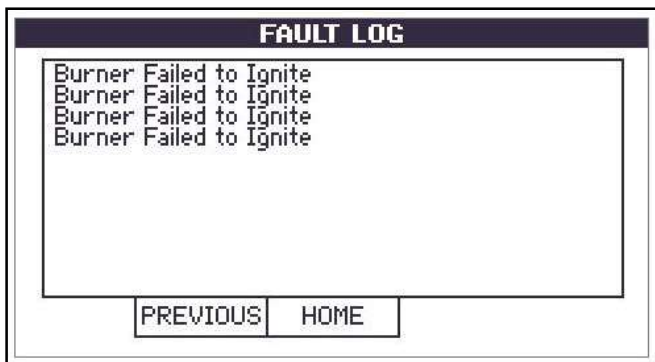

Figure 137
- Check the Reporter for any faults (see Figure 137)